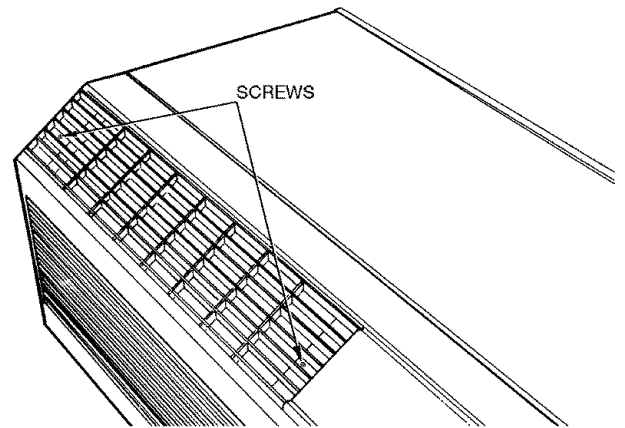

FIGURE 26 — REMOVING AIR DISCHARGE GRILLE
5. Remove the air discharge grille (two screws). See Figure 26.